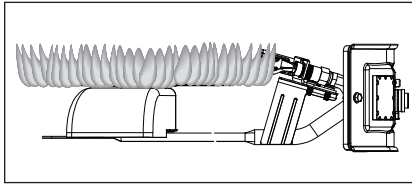

Figure 41 - Burner Flames
- Inspect the burner flames through the viewport and compare them to Figure 41. The flames should be very small with a blue haze and a small amount of yellow or orange at the edges. After several minutes, the burner screen may glow red. If large flames are observed at any time, shut off the unit and call a qualified person.